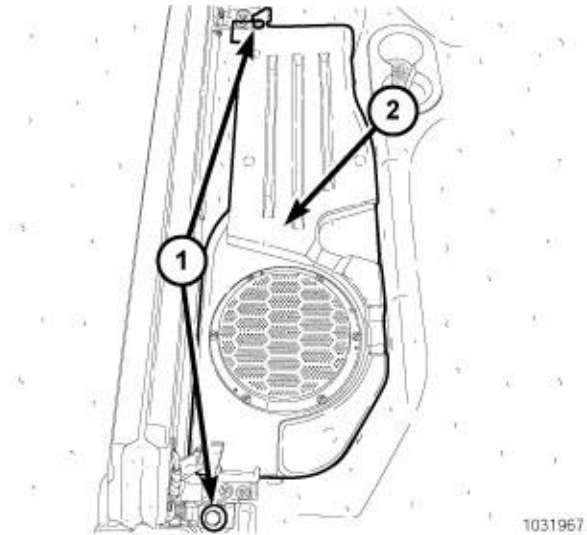

Figure 44 – Subwoofer
6. If equipped with a subwoofer speaker, raise the right rear seat to access the subwoofer (2) (Figure 44).
7. Remove the subwoofer mounting fasteners (1) (Figure 44).
8. Disconnect the electrical connector and remove the subwoofer (2) (Figure 44).